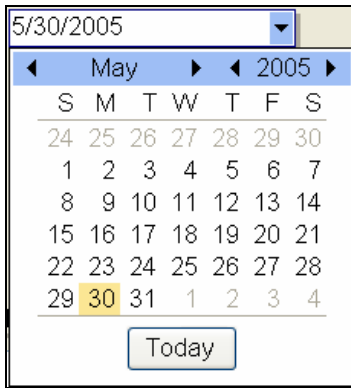

Figure 28.0.6
3. Click on the drop down arrow to select a date. This will reveal a calendar to choose a specific date (Figure 28.0.6).